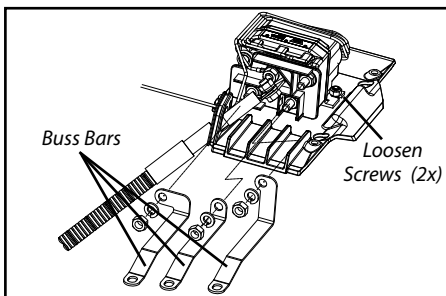

Figure 6
- Remove terminal nuts and lock washers securing the three buss bars to the contactor (see Figure 6). Set aside terminal nuts and lock washers, as they will be used later on. Buss bars will not be used for new installation.